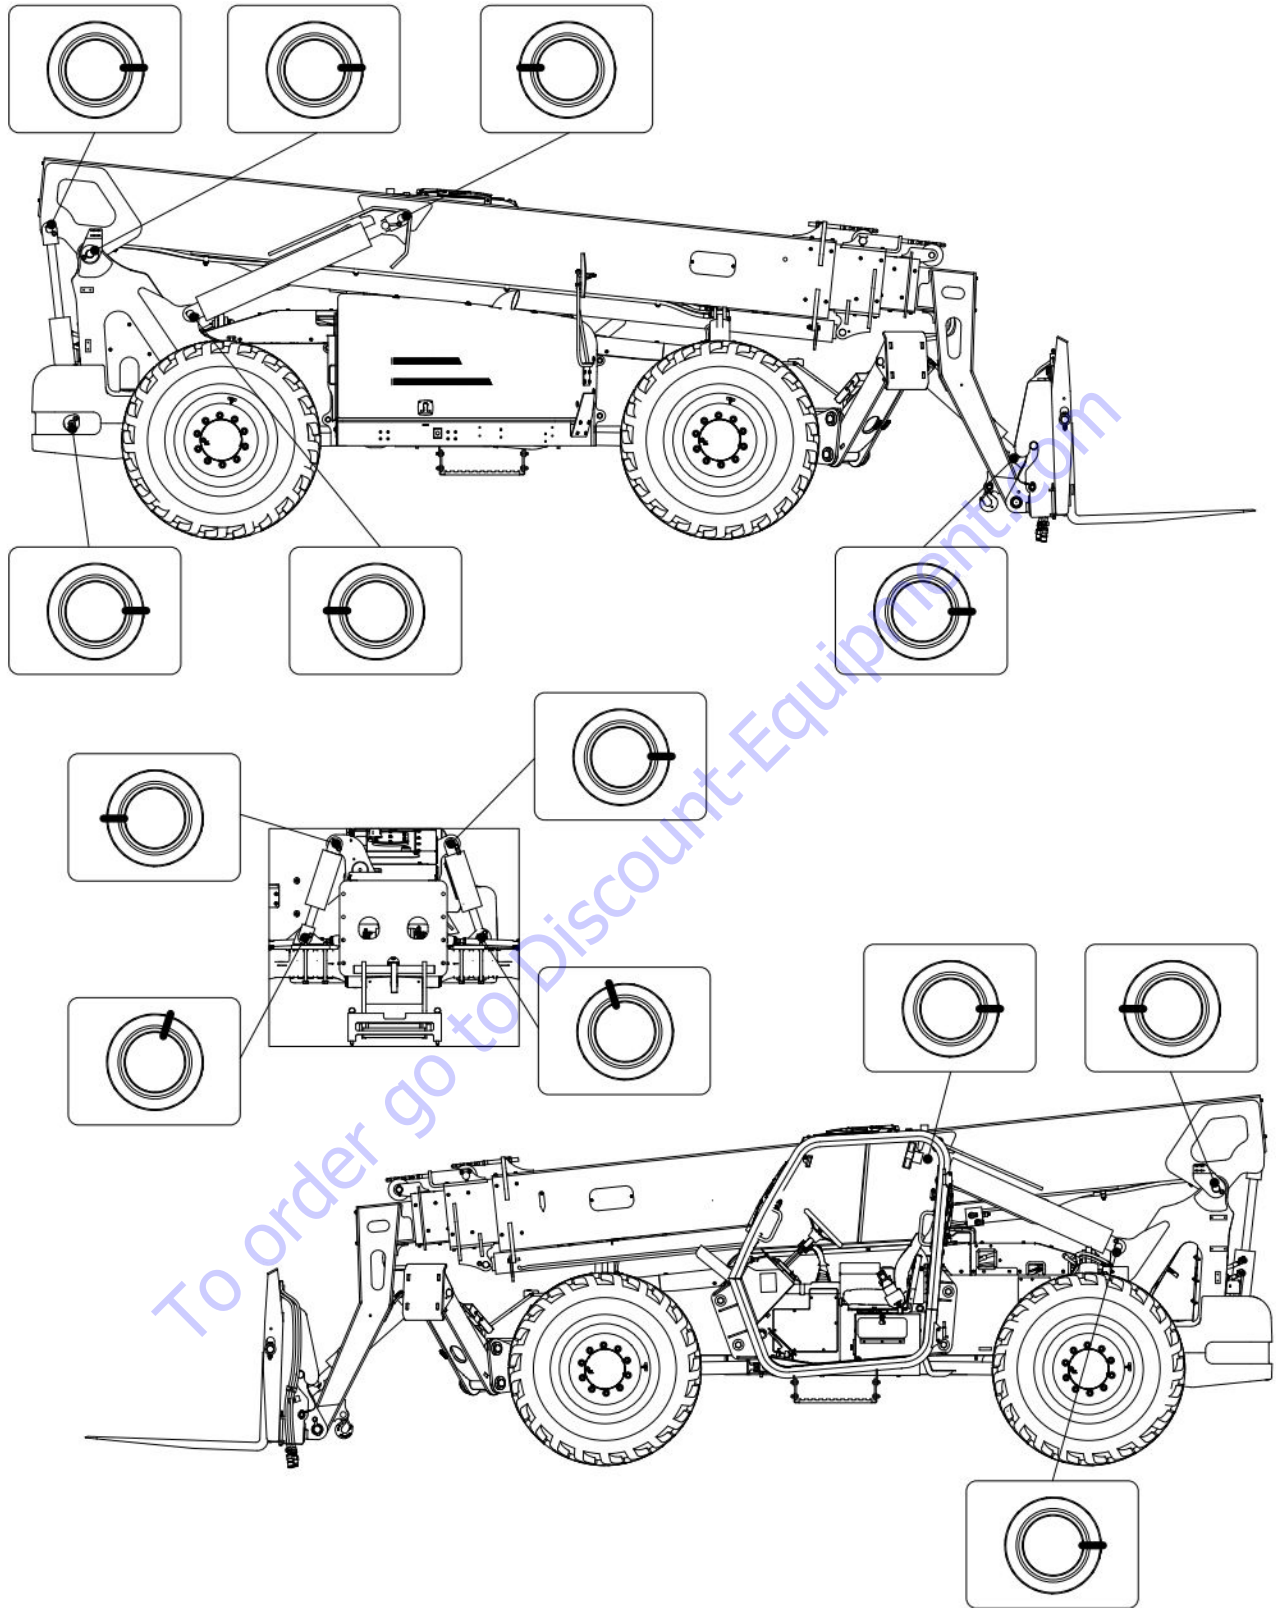

Figure 181 Bearing Orientation
3. Identify the split line in the outer race of the bearing. Refer to Figure 181 to install the bearing in the correct orientation.